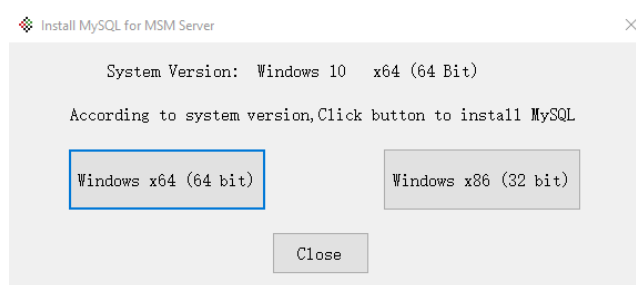

Figure A1
1. When prompted to install MySQL, select the 32 or 64 bit version as appropriate for the PC receiving the MSM Server installation. (Figure A1)